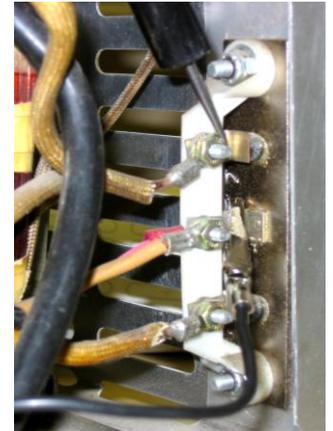

Figure 4
- b. A short circuit failure of one or both diodes. First disconnect one diode. Using a low voltage continuity tester check each diode as shown in Figure 4. Then reverse the tester leads and check each diode again. If the diode conducts current in BOTH directions the diode is shorted and must be replaced. Replace either the entire heat-sink assembly or the defective diode. When replacing a single diode, be sure the new diode is pressed squarely into the hole and that it does not extend beyond the rear surface of the heat-sink plate.